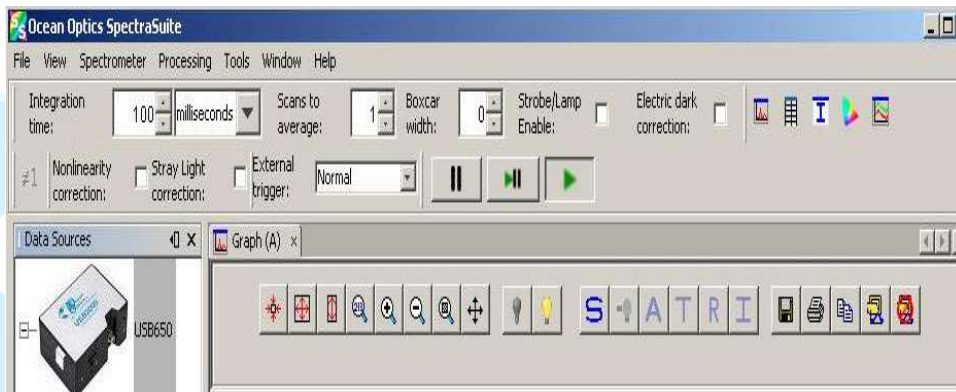

Figure 16. Spectrasuite toolbar
The USB spectrometer can also make absorbance measurements when used in conjunction with the tungsten light source and cell holder pictured in Figure 16. To measure absorbance, the instrument must be calibrated. This is done by first recording the number of counts at each of the 2048 elements from the pure light source as it passes through a reference solution (water). Next, the number of counts when the light source is blocked is recorded. Both of these operations are automatically performed by the software when the appropriate buttons are pushed. Once the instrument has been calibrated and a sample is inserted in the holder, the computer calculates the ratio of the counts hitting the detector to the stored reference counts for each of the 2048 elements, converts these to absorbance values, and plots the result on the screen. Again, the computer operates at a speed that makes all this appear to happen instantaneously.
1. Start Spectrasuite by clicking the **Start** button, then selecting **All Programs | Ocean Optics | SpectraSuite |  SpectraSuite**. Figure 16 is the toolbar that will appear at the top of the screen.